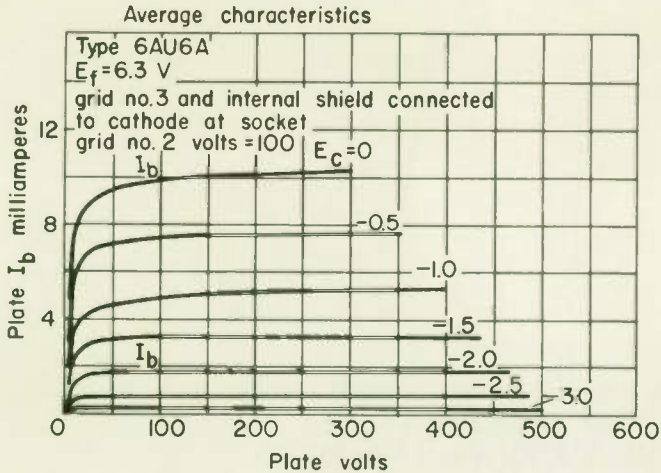

Fig. 35
- (1) -7 V (2) -9 V (3) -4 V (4) -5.5 V
21. In the type 6AU6A tube, the curves for which are given in Fig. 35, if the grid voltage is kept at -2 V , how does varying the plate voltage affect the plate current?